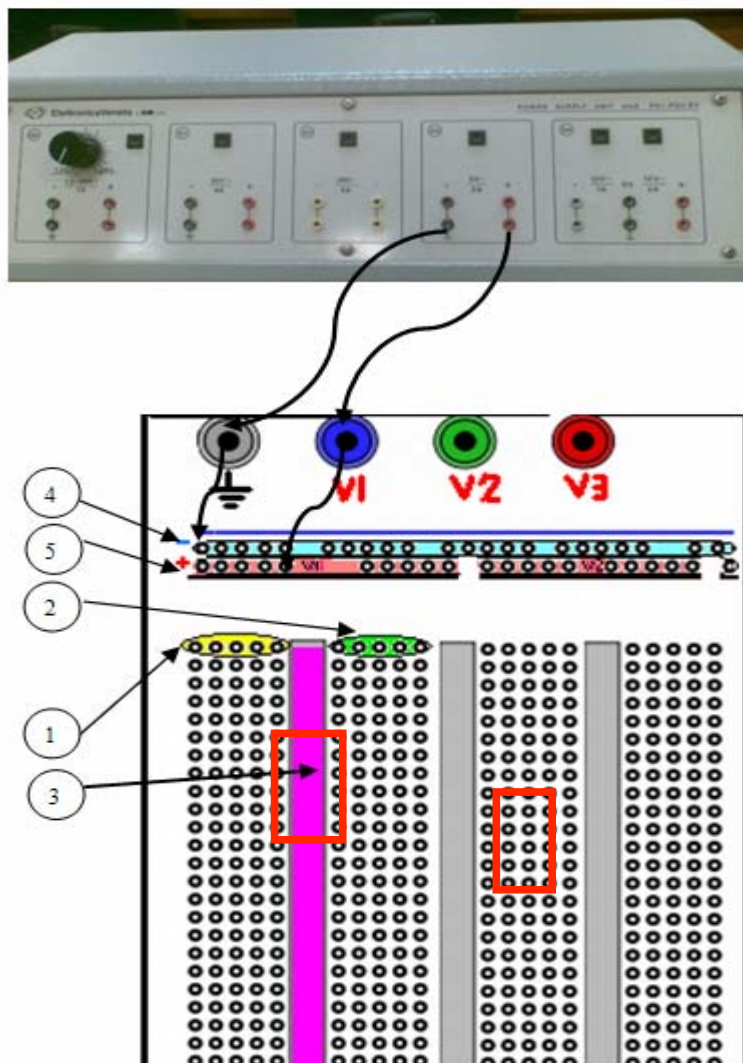

Figure 3
- Holes in the same row (examples highlighted in yellow (1) in Figure3) are electrically connected (they are the same node), holes in other row (highlighted in green (2)) are different node, when you insert a wire into one hole then all the holes in the same node are electrically connected.
- The gap (highlighted in pink (3)) marks a boundary between the electrical connections. A wire inserted in one of the green holes would not be connected to a wire inserted in one of the yellow holes.
- The two top rows of holes at the top highlighted in red and blue are used for power supply connections. The first row (highlighted in blue (4)) is connected to ground, all the holes in this row are electrically connected.
- The second row (highlighted in red (5)) must be connected to 5V, there are 40 holes in this row, each 10 holes are grouped together and electrically connected.